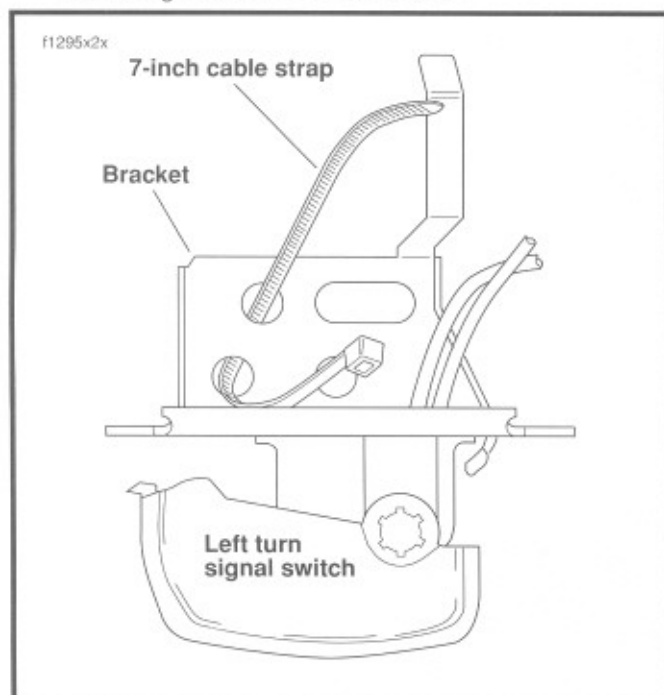

Figure 7-83. Insert Cable Strap in Switch Bracket
1. See Figure 7-83. Insert tapered end of **new** 7 inch cable strap into round hole in turn signal switch bracket and then feed back through using the adjacent hole. Reserve the oblong hole for the bracket screw.